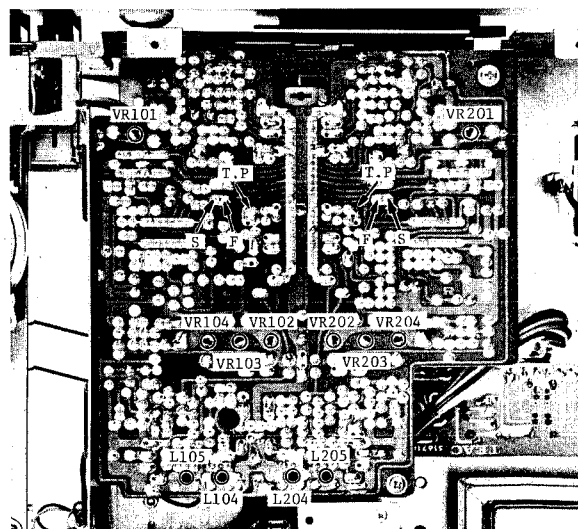

Fig. 12-4 RECORD/PLAYBACK AMPLIFIER P.C. BOARD (51671750)
5. See P.C. board photo below. fig. 12-4